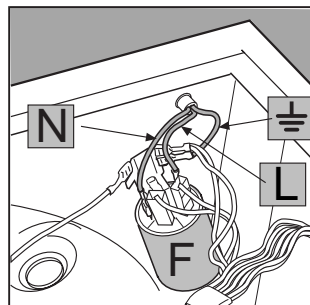

Fig. 4
3. Disconnect the wires from the radio interference suppressor F [fig. 4] noting as to their position (Blue=N wire; Brown=L wire) leaving the earth wire until last \perp .